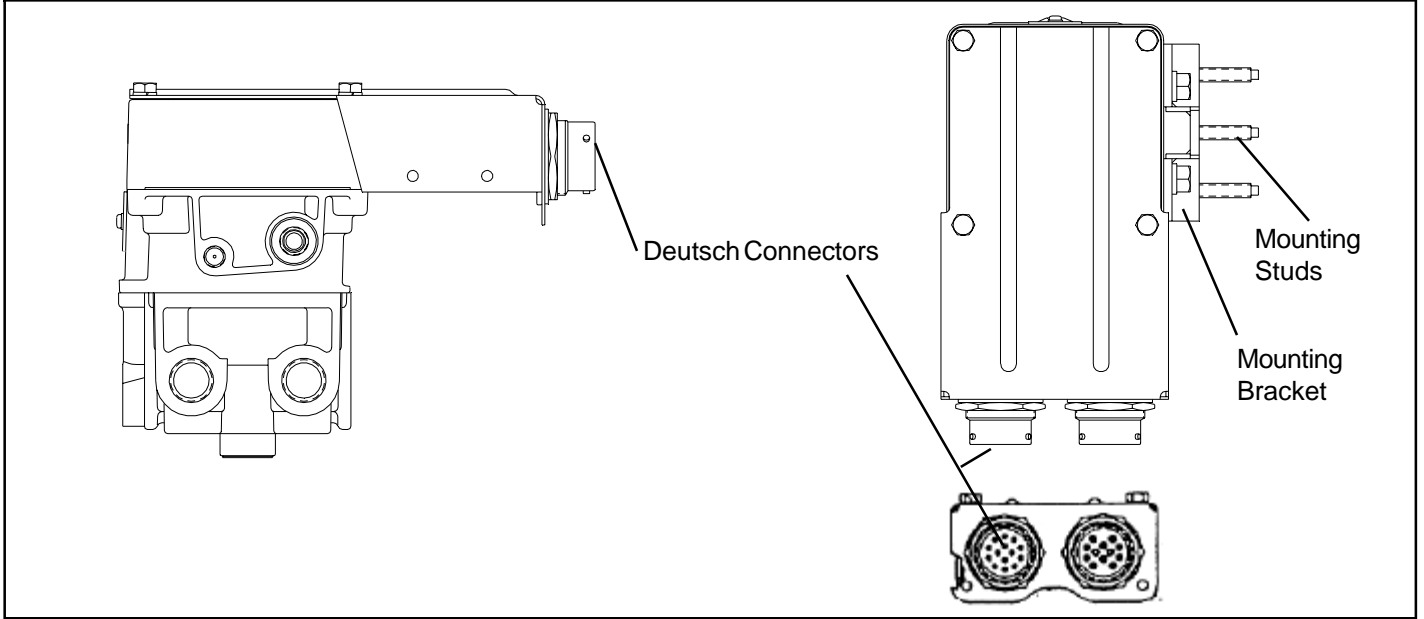

Figure 1 CR-16 Controller Relay Assembly (2-14 Pin Deutsch Connectors)
3. Disconnect the electrical connector(s) (Refer to figures 1 & 2) Note the type of connector in use and disconnect appropriately.
4. Refer to figures 1 & 2 when installing the CR-16 wire harness assembly(ies). Identify the type of connector in use and note the position of locating pins or lugs on the connector halves. **DO NOT FORCE THE CONNECTOR HALVES TOGETHER.**